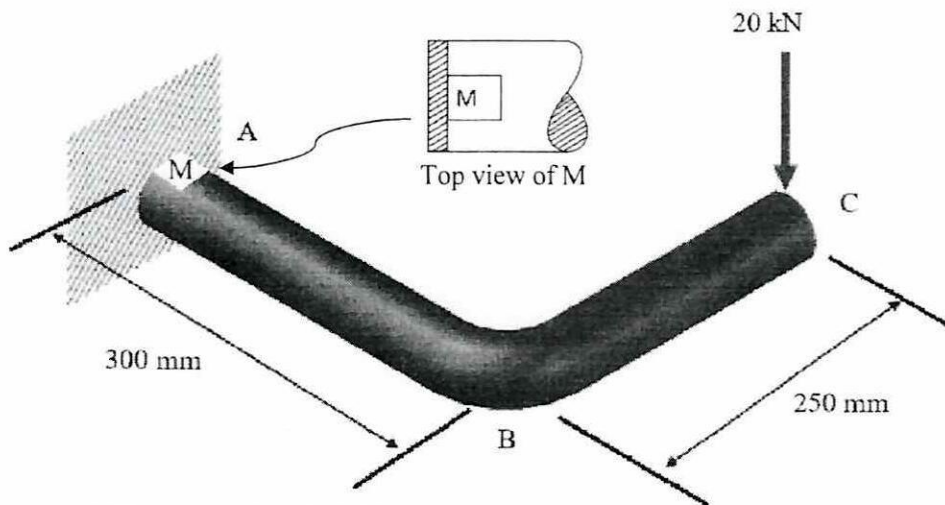

Figure Q5 (b)
- (b) As illustrated in **Figure Q5 (b)**, a steel rod is being loaded. The diameter of the rod is 50 mm. The force is exerted on 300 mm and 250 mm from the element M, for the loading condition: